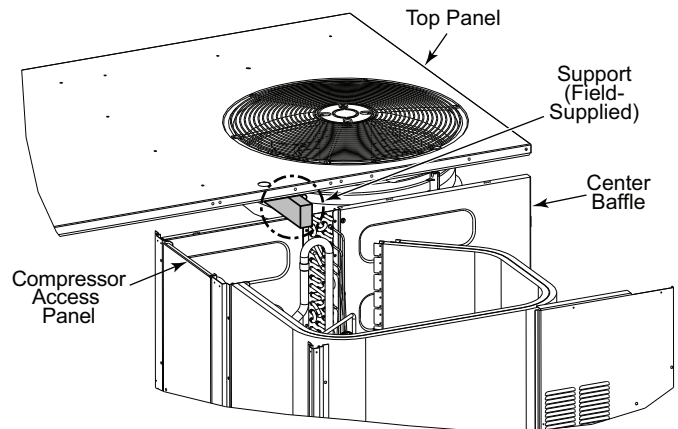

Fig. 16 — Top Panel Position
3. Lift and rotate the top panel at the condenser fan end and rotate the panel 90 degrees. Support the top panel so it remains level while resting on the condenser fan as shown in Fig. 16.